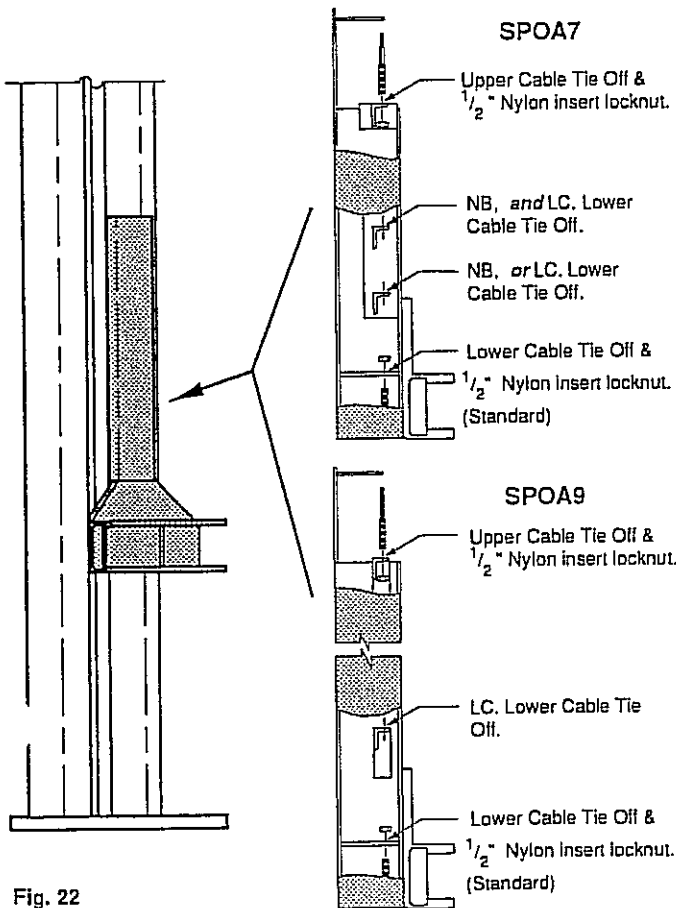

Fig. 22
20. Final Adjustments: Raise lift to check equalizer cable tension. Below carriage, grasp adjacent cables between thumb and forefinger, with about 15 lbs. effort you should just pull the cables together. Adjust at upper tie-offs Fig. 22.